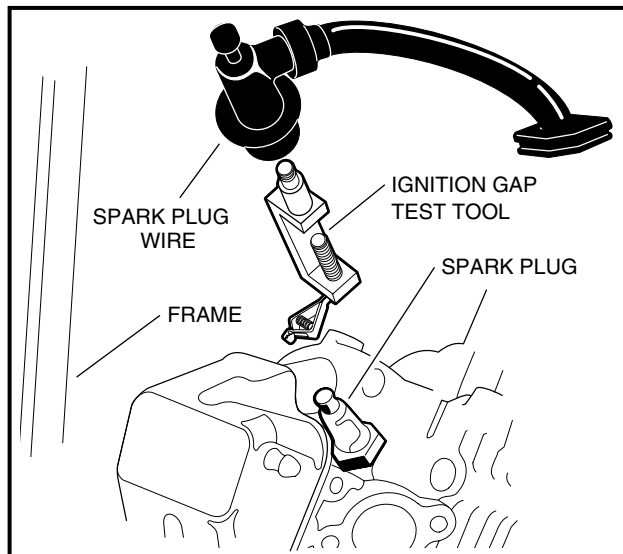

Figure 11-40 Ignition Spark Test
2. Remove the plug wire from the spark plug and use an ignition spark gap test tool (Thexton 404® or equivalent) to check for correct spark (**Figure 11-40, Page 11-33**).